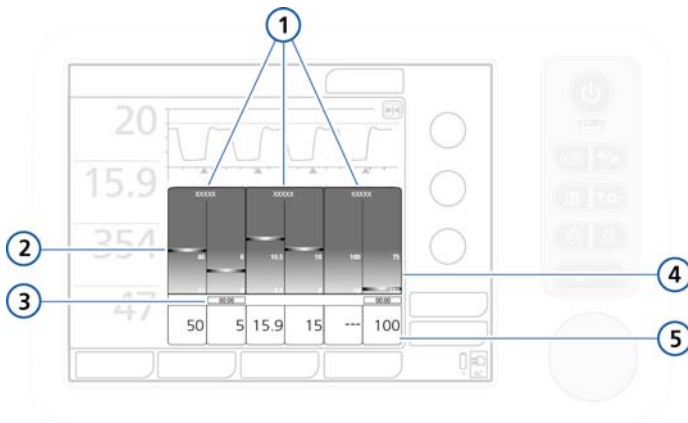

Figure 7-6. Vent Status panel
The Vent Status panel (Figure 7-6) displays six parameters related to the patient's ventilator dependence, including oxygenation, CO₂ elimination, and patient activity.
- The Vent Status panel is displayed (Figure 7-6).